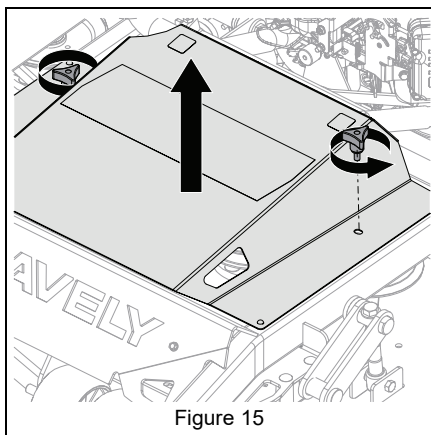

Figure 15
5. Remove belt access panel. See Figure 15.